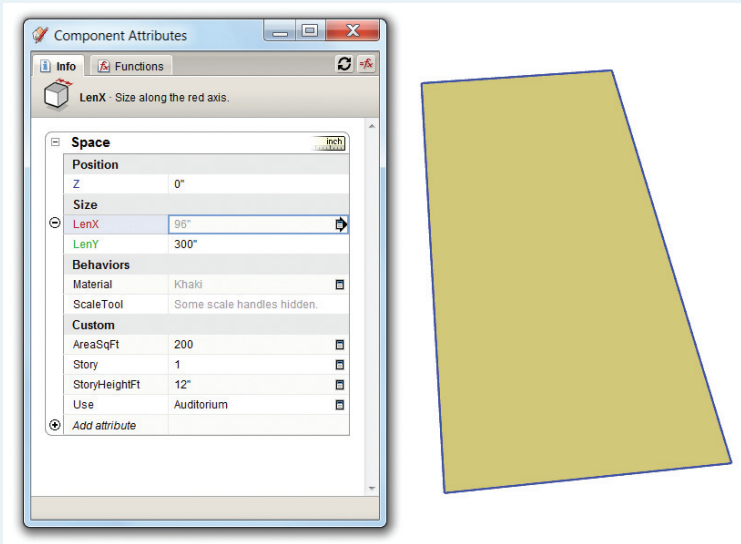

Figure 3.22: Attributes for Space Dynamic Component
2. Add all of the attributes as shown in **Figure 3.22**.
5. In the settings for the **ScaleTool** attribute, deselect everything except "Scale along red (X)" and "Scale uniform (from corners) (XYZ)."
6. Set the visibility of all attributes that show a dialog icon on the right in **Figure 3.22** so that the user can see and edit them.